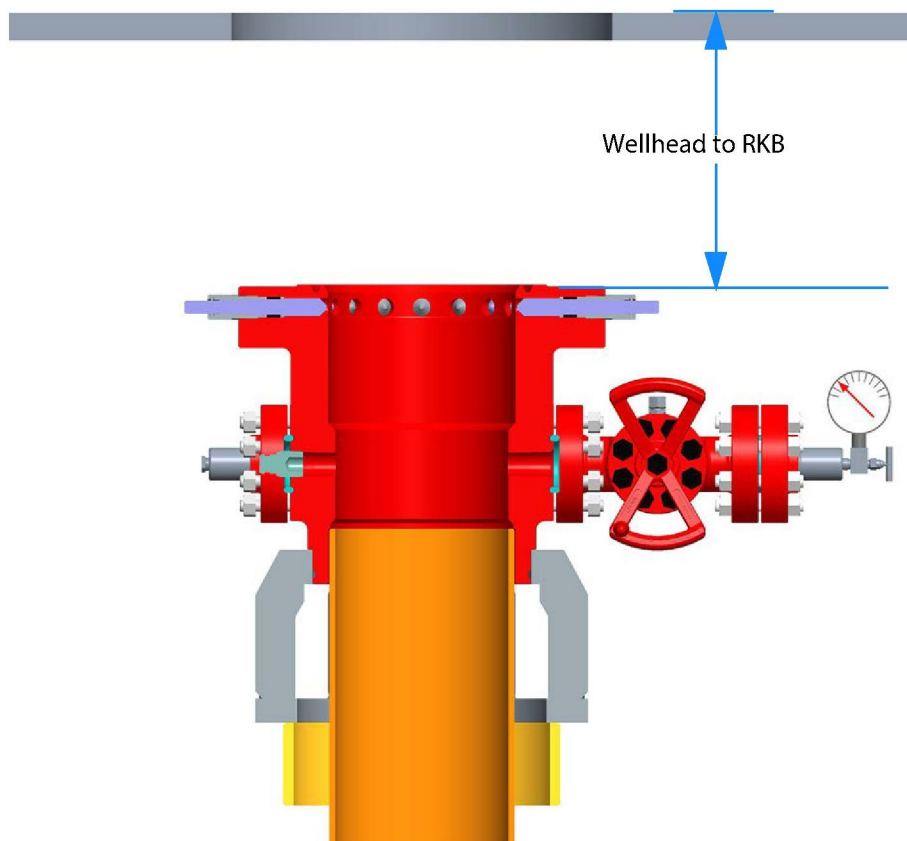

Figure 6
16. Install valve removal plug, companion flange, annulus valve, and lockscrew assembly per Figure 6. The lockscrew torque is 300 - 475 ft-lbf and the bushing torque is 250 - 500 ft-lbf. The torque for a 2-1/16" 5000 studded connection is 188-319 ft-lbf.